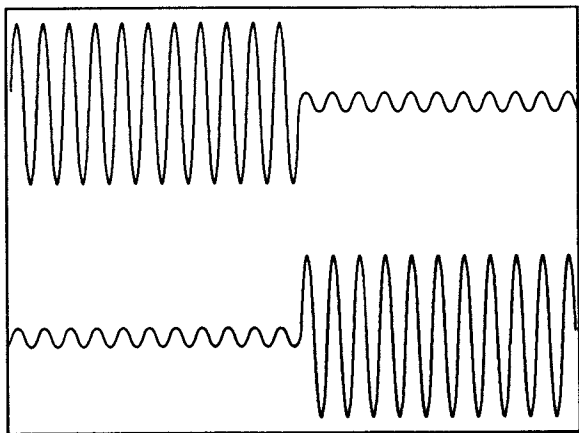

Figure 8. Minimum Crosstalk Results When This Display Appears On Dual-Trace Scope:
(E) Connect a dual trace oscilloscope to the test points on the preamplifier marked "TP L" (Left channel), "TP R" (Right channel), and "TP GND" (Audio ground). Run a 100% alternating left/right STEREO ALIGNMENT film, such as the Type 2 Test Film from ULTRA*STEREO. Move the cell in and out until the crosstalk is at a minimum on both channels as shown in Figure 8. It may be necessary to set the gain of the preamp roughly at this time.